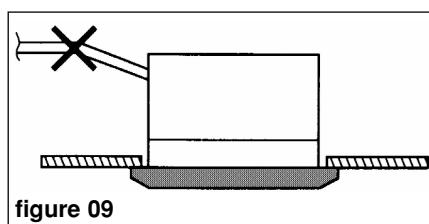

figure 07
- The tube must be held with supports (figure 07).